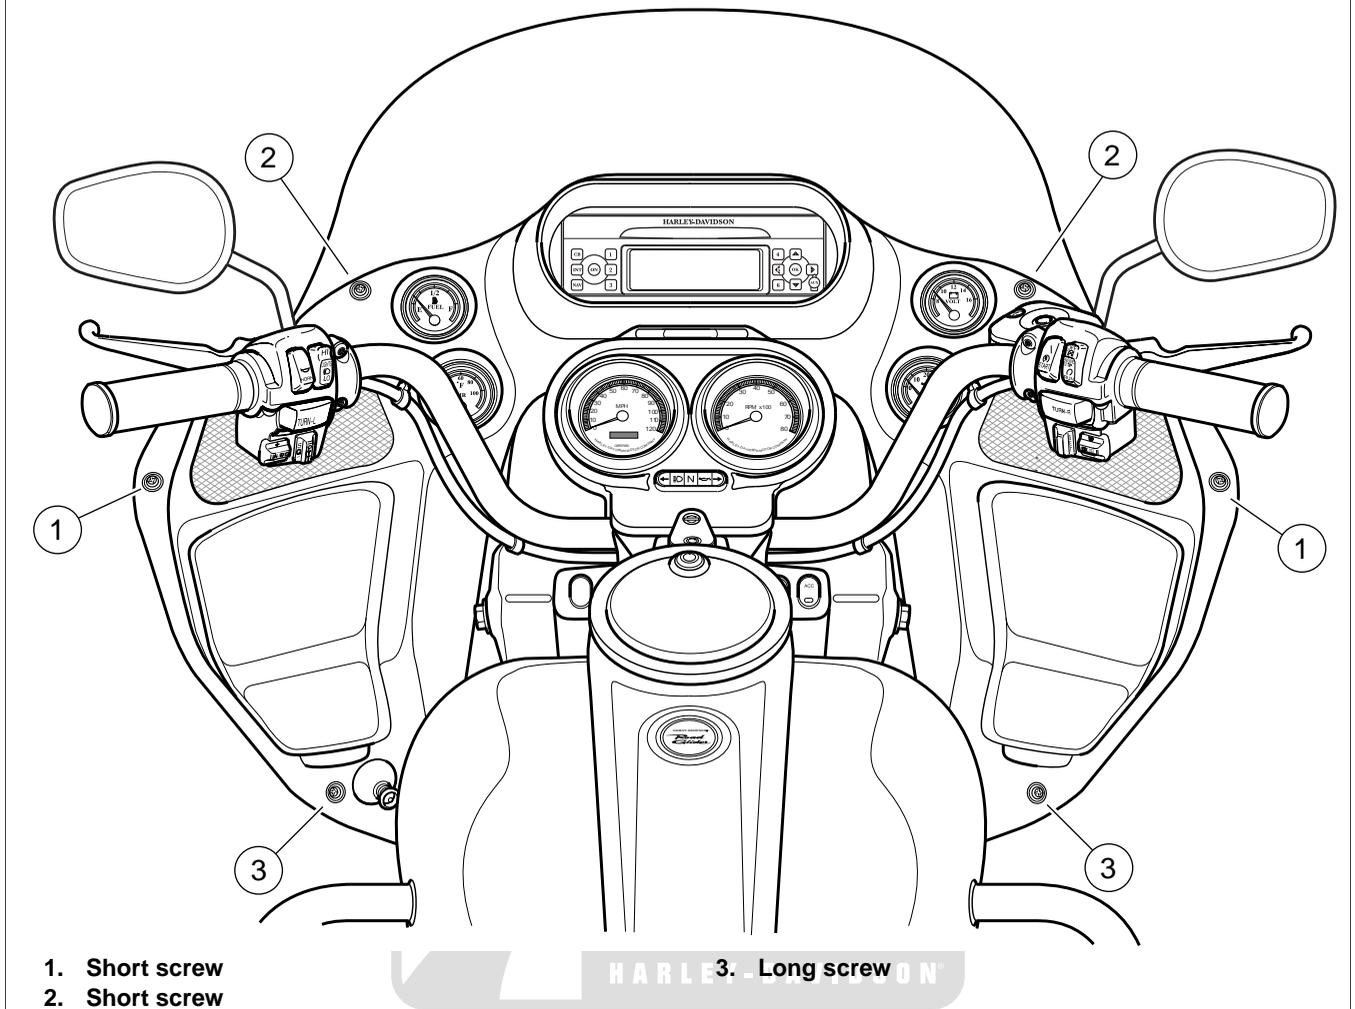

Figure 2-144. Remove/Install Six Outer Fairing Screws
2. Remove screw at edge of fairing outboard of left speaker. See Figure 2-144. Remove screw outboard of right speaker.
10. Alternately tighten four short fairing screws to 6-12 **in-lbs** (0.7-1.4 Nm). Alternately tighten two long fairing screws to 10-15 **in-lbs** (1.1-1.7 Nm). Use the torque pattern shown in Figure 2-144.